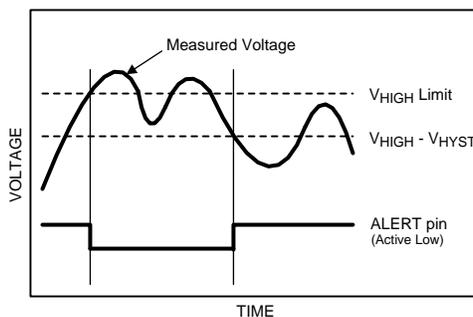

Figure 27. Alert condition cleared when measured voltage crosses  $V_{HIGH} - V_{HYST}$
The ALERT function is an "out-of-range" indicator. At the end of every conversion, the measured voltage is compared to the values in the  $V_{HIGH}$  and  $V_{LOW}$  registers. If the measured voltage exceeds the value stored in  $V_{HIGH}$  or falls below the value stored in  $V_{LOW}$ , an alert condition occurs. The Alert condition is indicated in up to three places. First, the alert condition always causes either or both of the alert flags in the Alert Status register to go high. If the measured voltage exceeds the  $V_{HIGH}$  limit, the Over Range Alert Flag is set. If the measured voltage falls below the  $V_{LOW}$  limit, the Under Range Alert Flag is set. Second, if the Alert Flag Enable bit is set in the Configuration register, the alert condition also sets the MSB of the Conversion Result register. Third, if the Alert Pin Enable bit is set in the Configuration register, the ALERT output becomes active (see Figure 27). The ALERT output (ADC121C021 only) can be configured as an active high or active low output via the Polarity bit in the Configuration register. If the Polarity bit is cleared, the ALERT output is configured as active low. If the Polarity bit is set, the ALERT output is configured as active high.
2. The measured voltage goes below the programmed  $V_{HIGH}$  limit minus the programmed  $V_{HYST}$  value and the Alert Hold bit is cleared in the Configuration register. (see Figure 27). If the Alert Hold bit is set, the alert condition persists and only clears when a one is written to the Over Range Alert Flag bit.